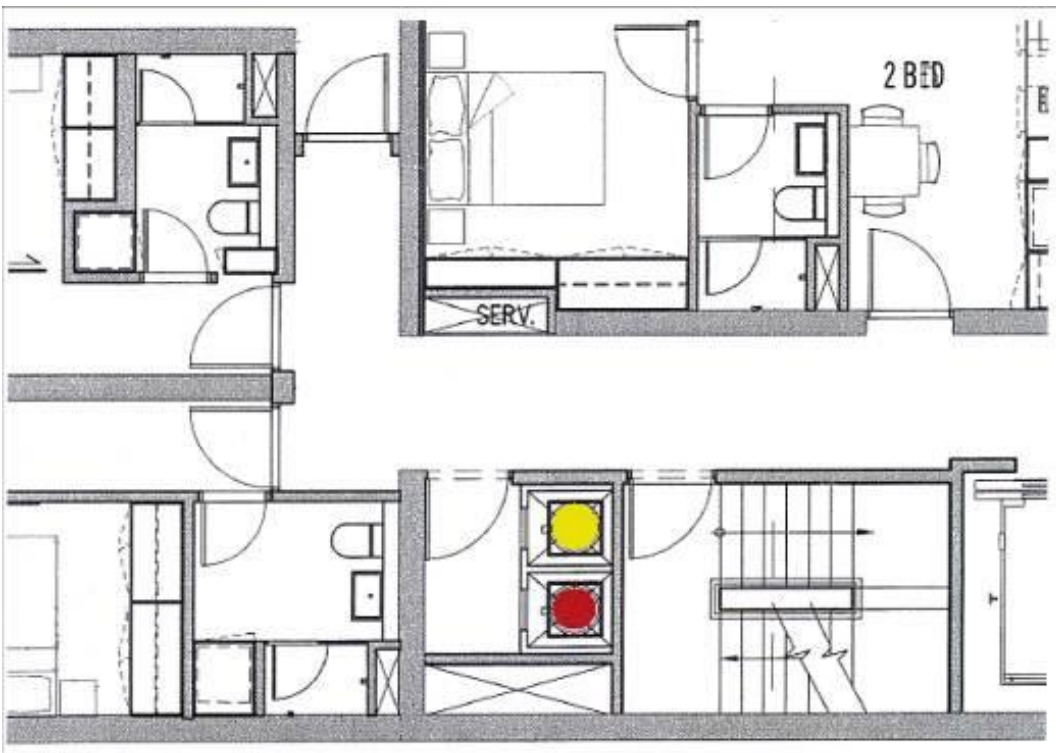

Figure 1 Example scaled waste management plan drawing of bin chute room with colour coded doors.
- MUDs above five storeys must use two separate chutes, with openings on each floor, to enable separate disposal of waste and recycling (figure 1).